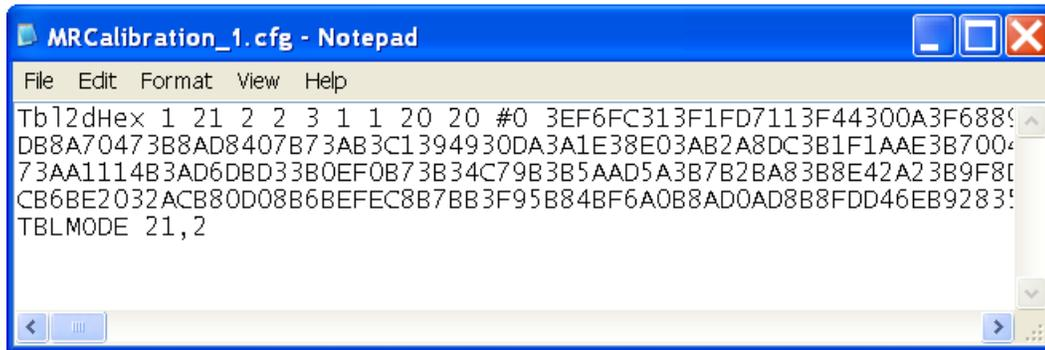

Figure 10: MR calibrated configuration file for the TTO Hot thermometer
1. Open the new MR calibrated *.cfg file located under \\QdPpms\Tools. (Figure 10).